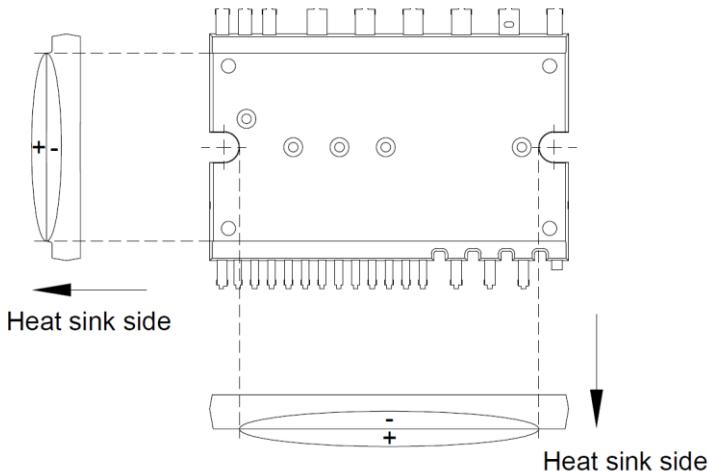

Figure 5. Flatness Measurement Position
- Fault signal (F_O) outputs when SC, UV or OT protection is triggered. F_O pulse width is different for each protection mode. At SC failure, F_O pulse width is fixed (minimum 20μs) or controlled by RC network (see Figure 5), but at UV or OT failure, F_O outputs continuously until recovering from UV or OT state.
- (1) GND pattern: It is recommended to connect the control GND and power GND at a single point (N1). GND pattern should be separated at the one point of the shunt resistors.
- (2) COM pin: It is recommended to only use the (16) COM pin to minimize SC detection noise. Leave pin (9) NC (No Connection).
- (3) A Zener diode D1 (24V/1W) is recommended between each pair of control supply pins to prevent surge destruction.
- (4) Snubber capacitor: The wiring between the IPM and snubber capacitor (C3) including the shunt resistors should be as short as possible.
- (5) C_{SC} pin circuit: C4 should be placed as close to C_{SC} pin and COM (16) pin as possible to prevent protection function errors.
- (6) Bootstrap capacitors: It is recommended that all capacitors are mounted as close to the IPM as possible.
- (7) Input circuit: The R and C filter circuit should be mounted to reduce input signal noise by high speed switching. C should be placed as close to COM (16) pin as possible.
- (8) V_{CF} pin circuit: V_{CF} output is open drain type. The signal line should be pulled up to the positive side of the 5V/3.3V logic power supply with a proper resistor R3. For the detailed design guide, please refer to the Figure 5.